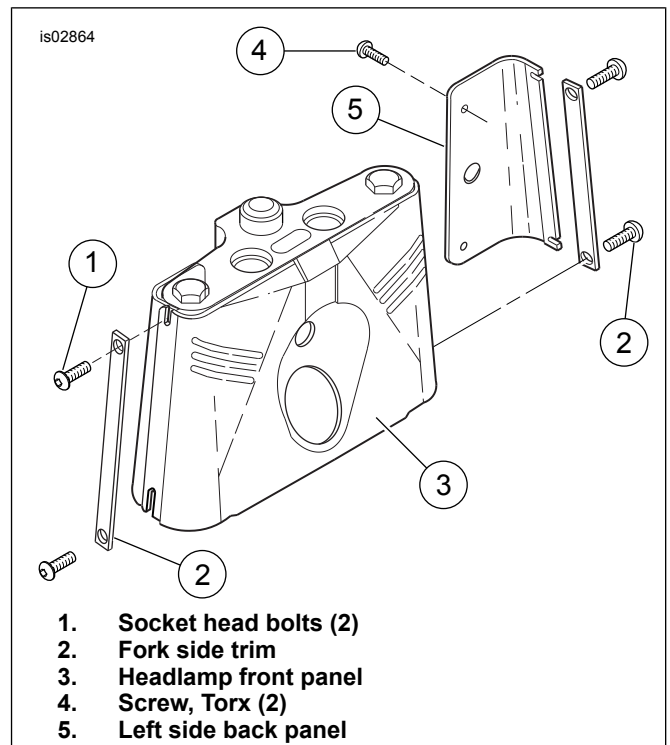

Figure 5. Fork Panels
2. See Figure 5. On the left side, lift up the rubber trim flap (1), separate the headlamp connector [38] (2) and pull the wire bundle from the frame clip.
4. See Figure 5. Remove and discard two socket head bolts (1) from each side of the fork side trim (2).
5. Remove and discard the side trim and remove and discard the headlamp front panel (3).
6. Remove the two TORX screws (4) from the left side back panel (5) and remove the panel.